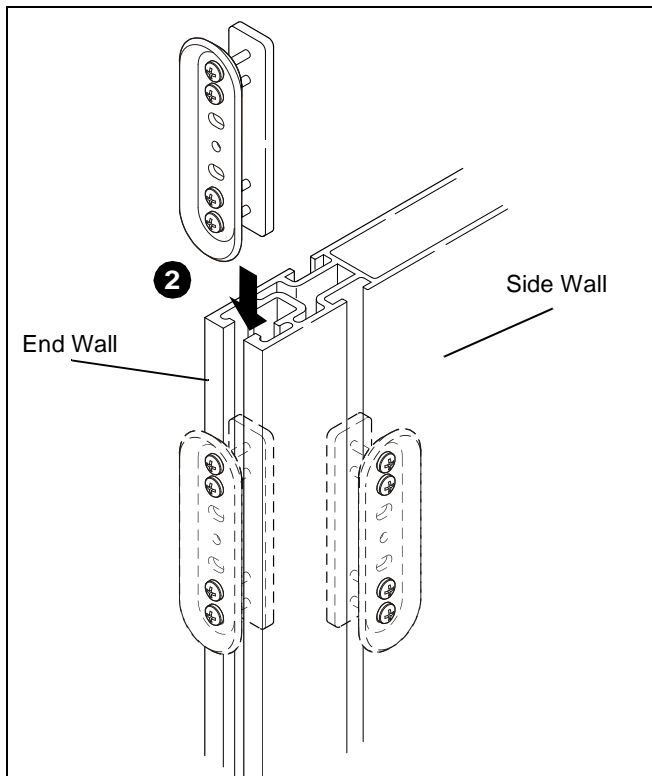

Figure 2
2. Orient mounting plate with wall plate (B) over mounting slot in wall and slide into wall making certain wall is between plates. (See Figure 2)
3. Position so that mounting plate is located in desired display mounting location. (See Figure 2)
4. Secure wall plate to wall by tightening four screws (A or C). (See Figure 2)